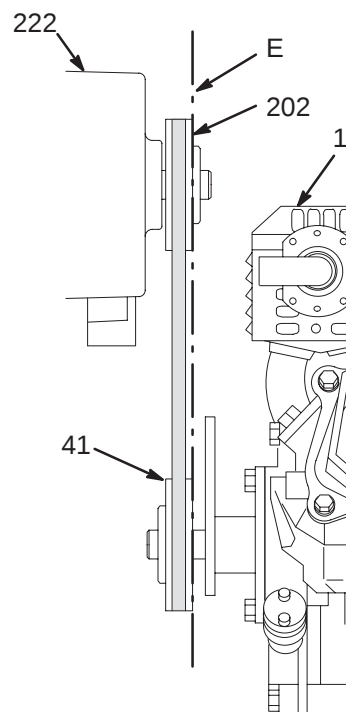

Fig. 17
3. Mount the engine or motor (1) without the belt guard in place. Place a straight edge (E) along the surfaces of the clutch pulley (202) and engine pulley (41) as shown in Fig. 17 to be sure they are vertically aligned. Readjust the bushing screws (A) as needed to align the pulleys and recheck the alignment.